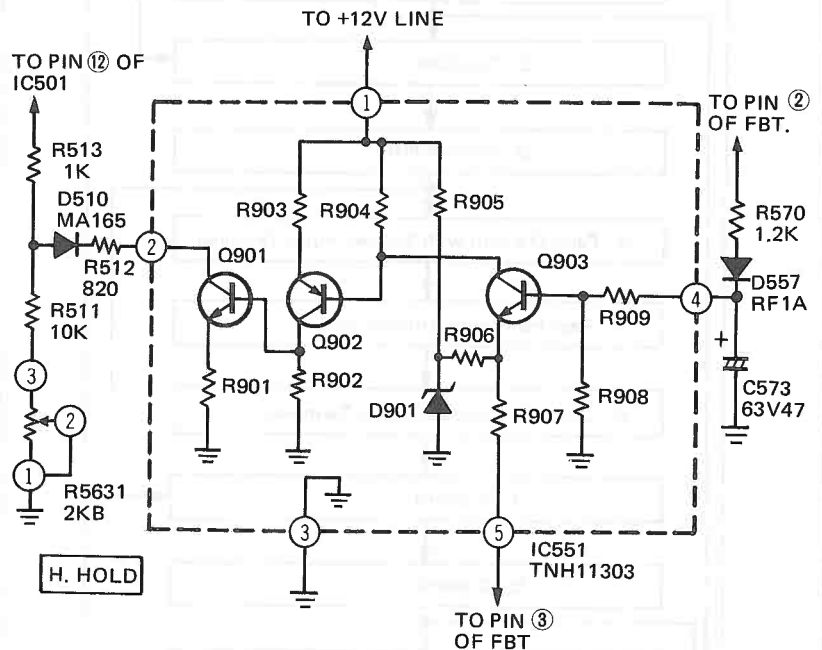

Fig. 11
Therefore Q902 turns on, and the collector voltage of Q902 increases, which is connected to the base of Q901. Consequently Q901 turns on, and collector current of Q901, which is connected to the pin ⑫ of IC501, begins to flow simultaneously. This causes the horizontal oscillator frequency to increase, and also causes loss of horizontal synchronization. (Fig. 11)